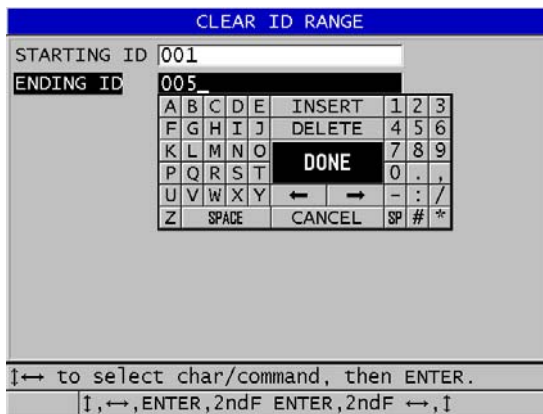

Figure 11-21 Deleting the data of an ID range in the active file
3. In the **CLEAR ID RANGE**, screen (see Figure 11-21 on page 190):